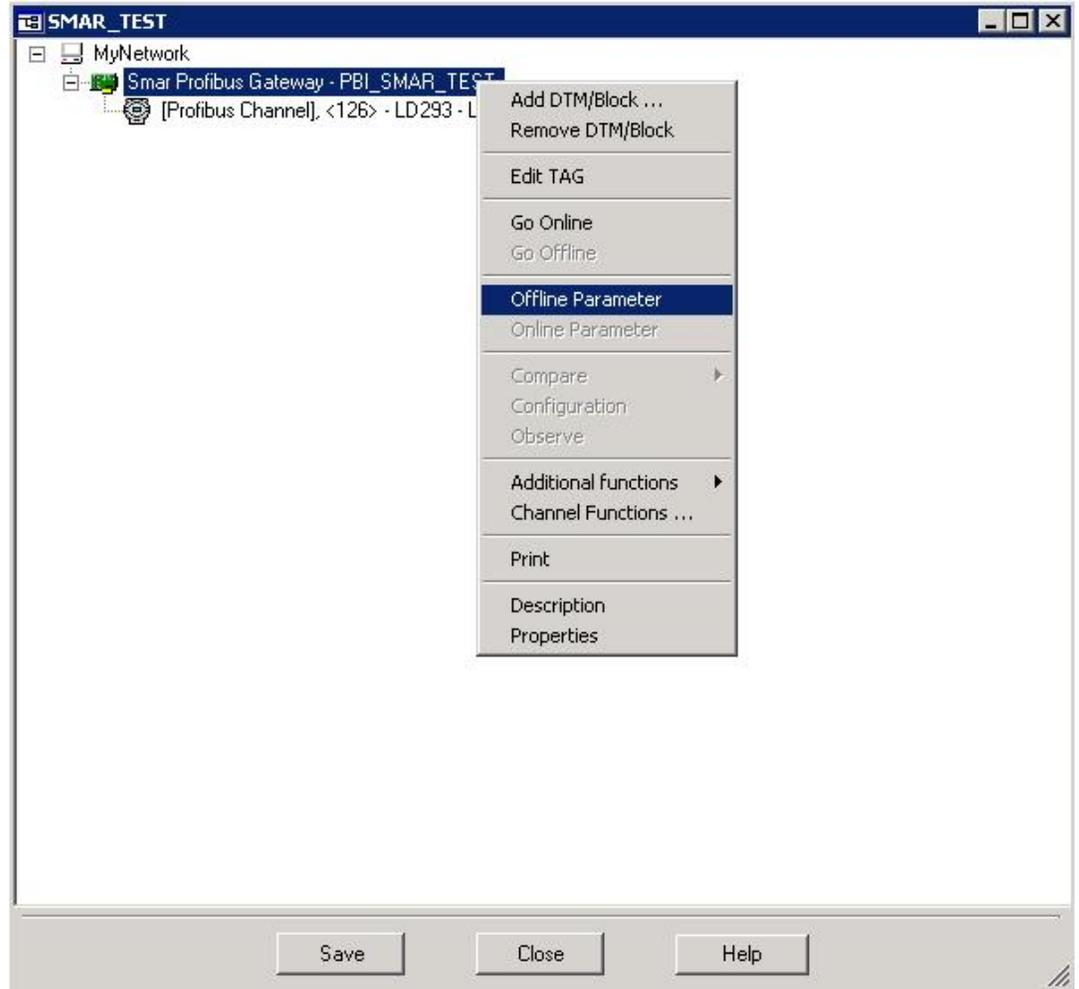
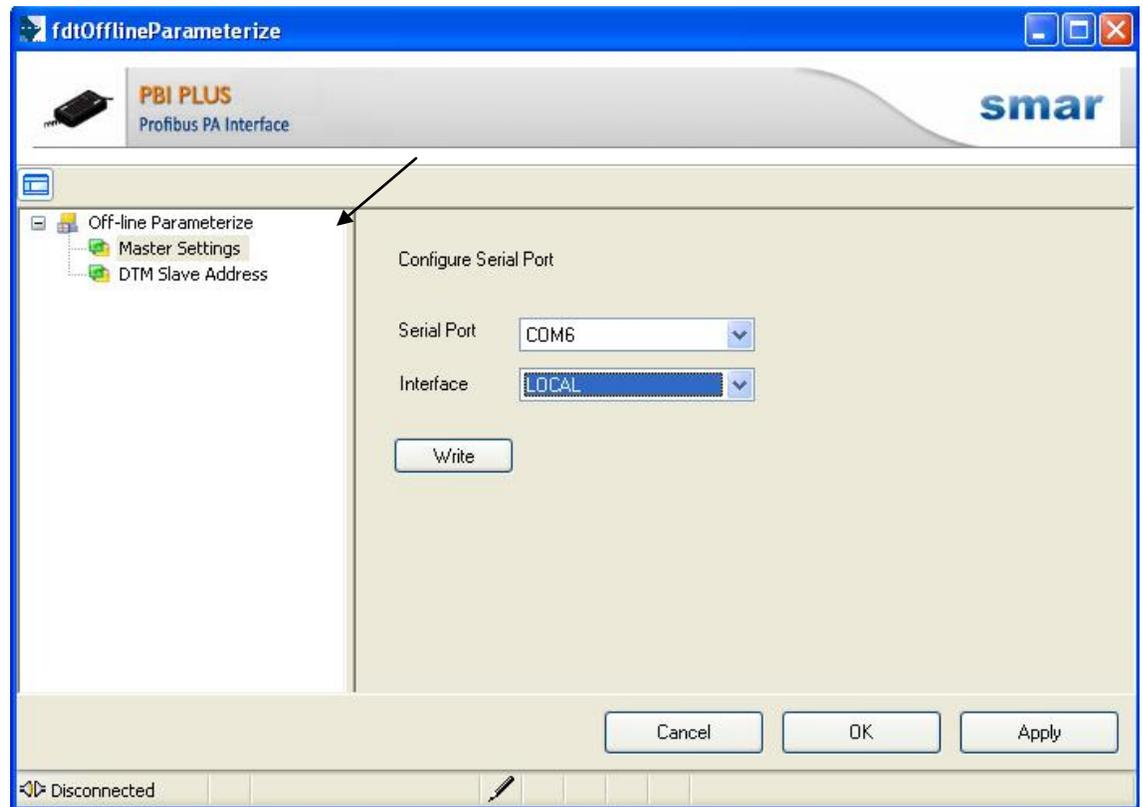

Figure 2.12 – Configuration of AssetView STANDALONE software
Figure 2.13 – Configuration of AssetView STANDALONE software
- 8) Then, an offline parameterization in PBI shall be done. Right-click on PBI and choose "Offline Parameterization" option. See Figure 2.12. Click on "Master Settings" option. It will be prompt a interface to configured the communication port ("Serial Port" option) to be used. It also be prompt the communication type ("Interface" option), that it should be set to local ("LOCAL" option) or to network ("NETWORK" option) depending on the application. See Figure 2.13.